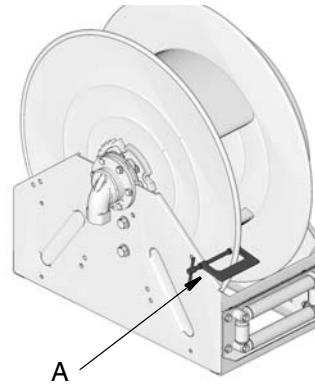

FIG. 3
Securely attach a c-clamp (A) to the reel spool abutting frame, as shown in FIG. 3, to help prevent the reel from unintentionally becoming unlatched and spinning freely.